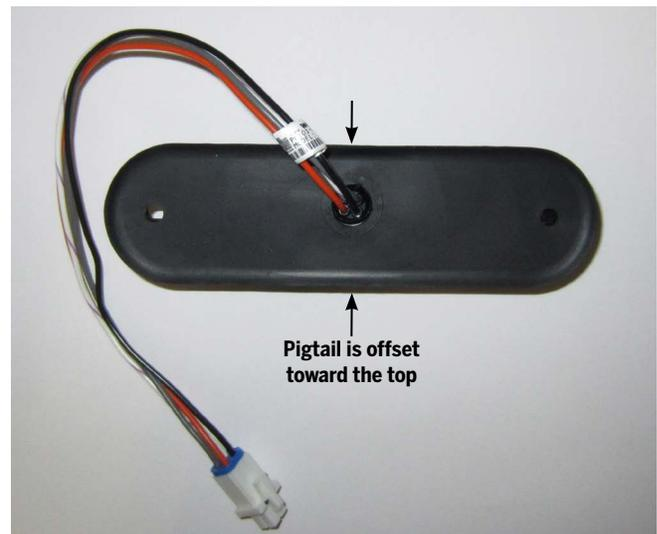

Figure 54: Harness Offset
3. Orient the light. The pigtail is offset where it connects with the light. Orient the lights so the pigtail is toward the top on one light and toward the bottom on the other light. See **Figure 54**.